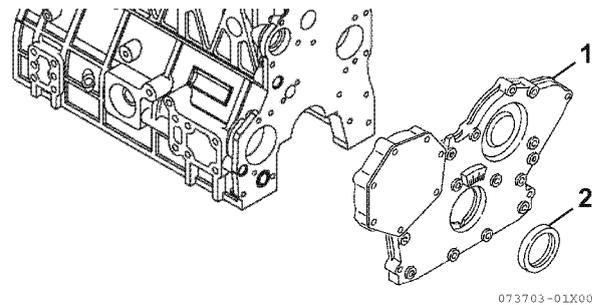

Figure 6-68
1. Remove the seal (2, **Figure 6-68**) from the cover (1, **Figure 6-68**).
2. Apply a continuous bead of ThreeBond Liquid Gasket No. 1207F, YANMAR Part No. 977770-1207F to the outside diameter of a new oil seal (2, **Figure 6-68**), and install in the gear case cover. Apply lithium grease to the lip of the seal.